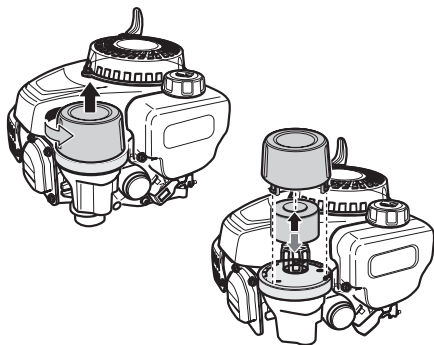
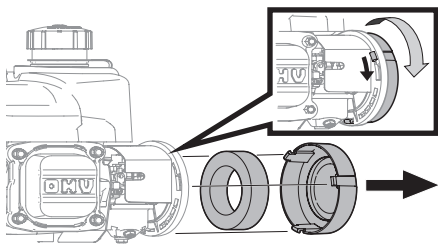

Figure 10
Figure 11
1. Turn the air filter cover counter-clockwise and lift up (79cc and 132cc, Figure 10) or pull away from the filter base (140cc, Figure 11).